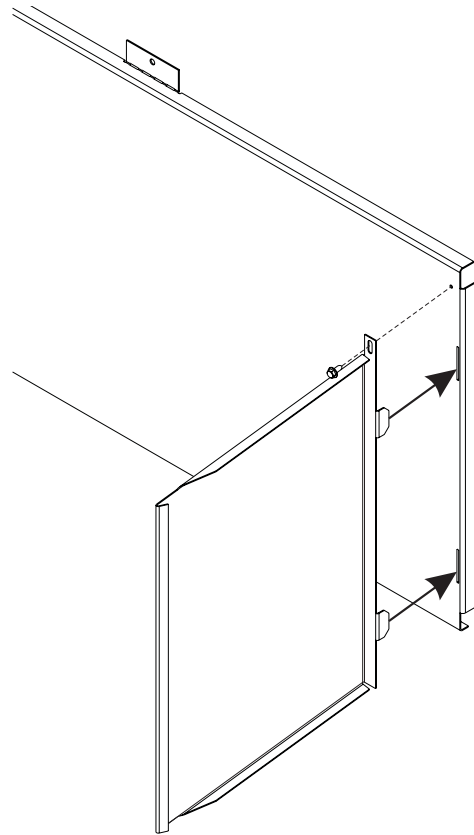

Figure 6
- Check to make sure the insulation is secured to the back prior to installing the Right Side Panel. To install the Right Side Panel, place it so that the two rear tabs align with the two slots at the right end of the Rear Panel. **See Figure 6.** Hold the front of the panel against the side retainer bracket, then, shift the side panel reward to engage the rear tabs and slots. At the same time, hook the front flange of the side panel over the side retainer bracket. **See Figure 7.** Once the panel is properly positioned, install (1) 5/16 X 1/2" screw through the top extended tab into the pilot hole located at the top right corner of the Rear liner panel to secure. **See Figure 8.**